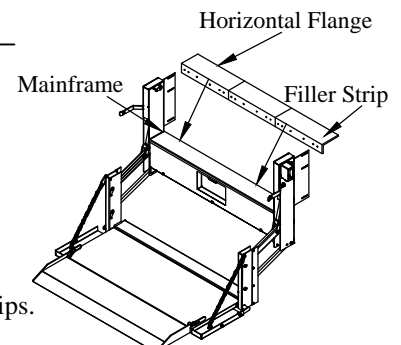

Figure 10: Filler strip location.
1. **Arrange** the three (3) filler strips along the top corner of the liftgate mainframe (Figure 10).